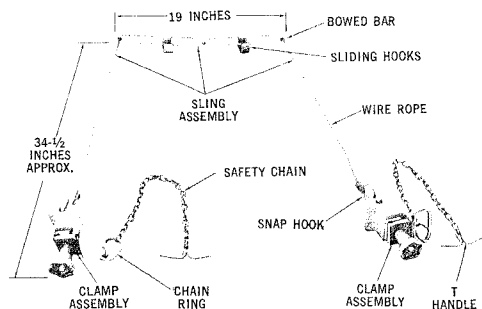

Fig. 15 — B Ladder Support
6.15 The *B Ladder Support* consists of a sling assembly and two clamp assemblies which are grooved to fit the strand. The clamps can be attached to the strand of either lashed or ring-supported cables, without disturbing the cable. The clamps are equipped with safety chains to prevent them from falling in the event of accidental disengagement. The sling assembly consists of a bowed bar equipped with two sliding hooks and two wire ropes, one at each end of the bar. Each wire rope terminates in a snap hook which connects the rope to a clamp assembly. The B Ladder Support is shown in Fig. 15.